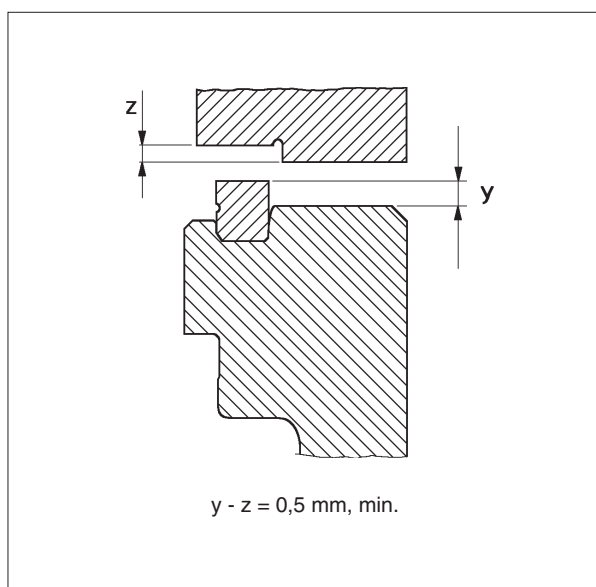

Fig. 4.
**4)** When having ground the contact faces, it must be observed that the gap between cylinder head and liner is no less than 0,5 mm, that is, the difference between measurements y and z must not be less than 0,5 mm, see fig. 4.